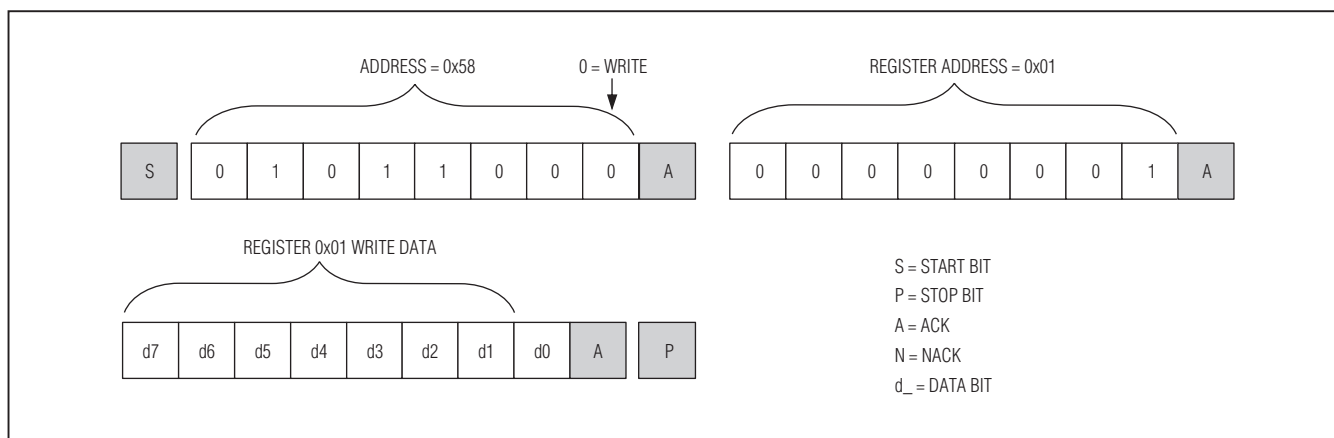
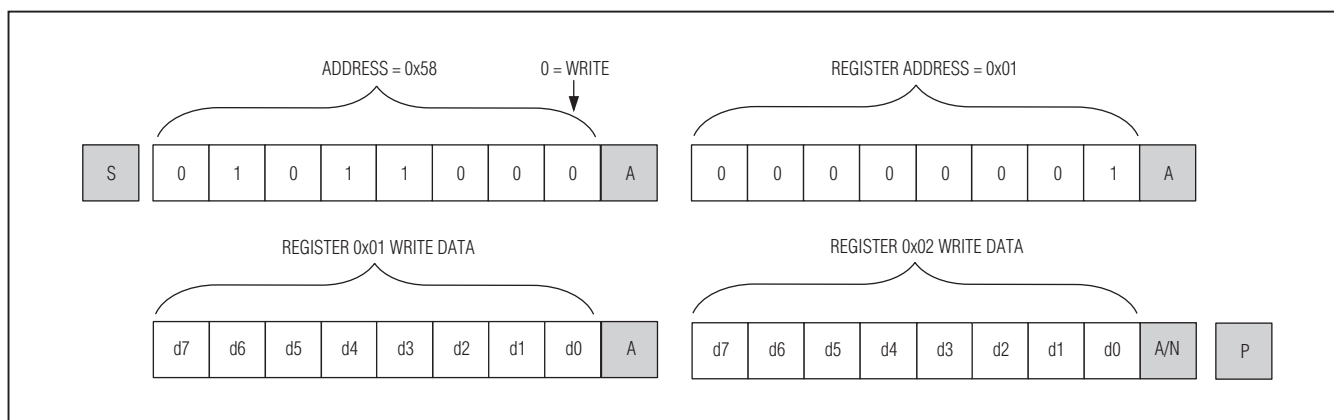

Figure 9. Format for I2C Write
Figure 10. Format for Writing to Multiple Registers
A write to the MAX14578E comprises the transmission of the slave address with the  $\overline{R/\overline{W}}$  bit set to zero, followed by at least one byte of information. The first byte of information is the register address or command byte. The register address determines which register of the MAX14578E is to be written by the next byte, if received. If a STOP (P) condition is detected after the register address is received, the MAX14578E takes no further action beyond storing the register address (Figure 9). Any bytes received after the register address are data bytes. The first data byte goes into the register selected by the register address, and subsequent data bytes go into subsequent registers (Figure 10). If multiple data bytes are transmitted before a STOP condition, these